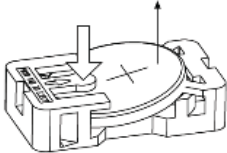

Figure 67 AG1b battery
3. Press on the holder lug to release the battery from the holder, see Fig. 67, and note the polarity.